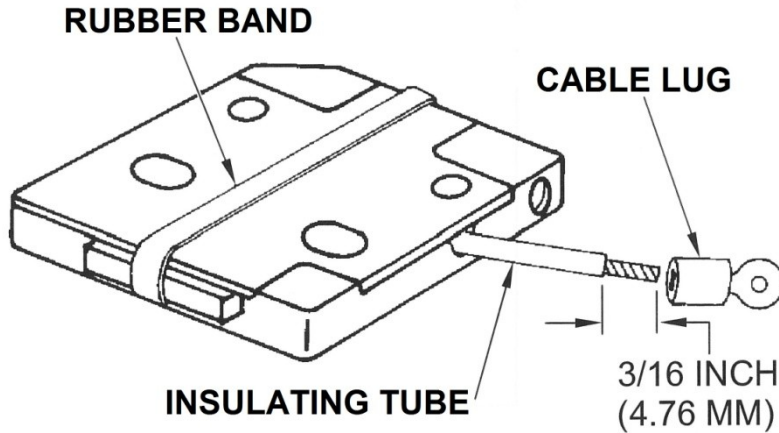

Fig.31 Preparation of the brush wire to crimp the ring terminal
- G. Fully compress the brush and secure it with a rubber band, or paper adhesive tape. Pull the lead out of the exit hole until the maximum available lead length is external to the brush module and slide the tubing on the lead to within 3/16 inch (4,76mm) (if necessary, shorten the insulation tube) of the end of the bare wire (see fig.31).